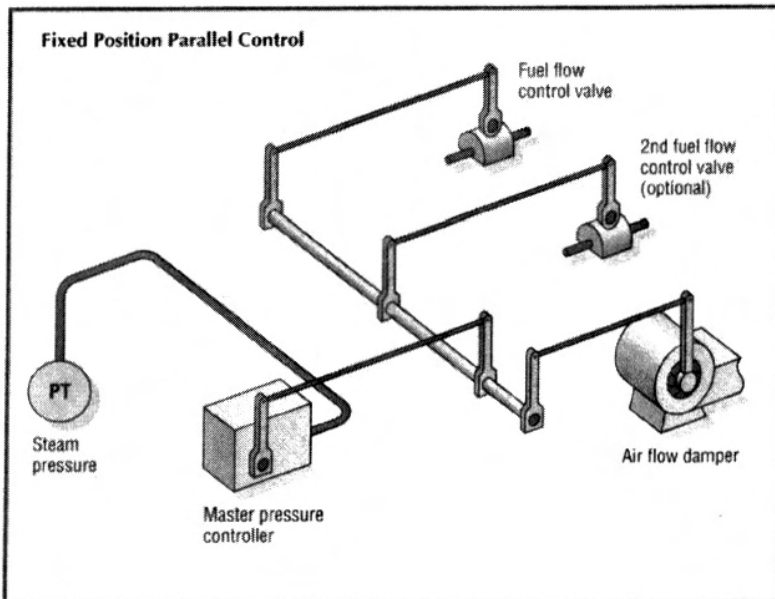

Figure 1. Fixed position parallel jackshaft combustion system with fuel/air ratio established through fixed mechanical linkages.
**Fixed Position Parallel Controls.** The simplest form of combustion control for power burners is the fixed position parallel control (FPC) (Figure 1) also known a direct or jack-shaft control. This strategy incorporates a single positioning motor, which drives both the fuel and air positioning devices via an interconnected single mechanical link, the jack-shaft.